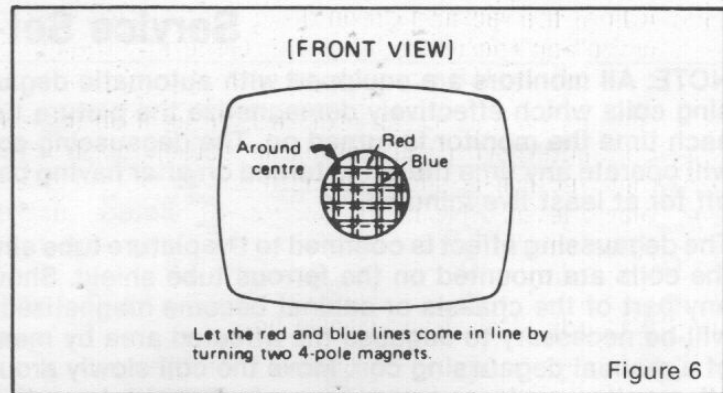

Figure 6
2.5 Rotate and spread tabs of the 4-pole (middle) pair of magnets to minimize separation of the red and blue crosshatch lines around the center of the screen (Figure 6). Variation of the angle between the tabs adjusts convergence of red and blue. (Tilt yoke as required to converge red and blue at the edges as in 2.3 above.)